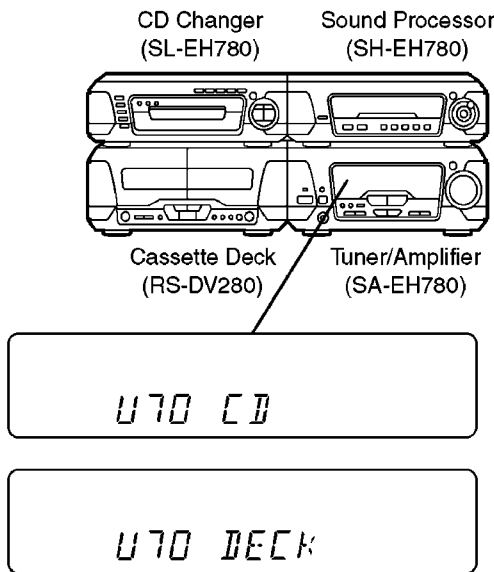

Fig. 7-1.
- U70 CD:** Automatically displays on the tuner/amplifier when a malfunction occurs. Refer to Fig. 7-1.
- U70 DECK:** Automatically displays on the tuner/amplifier when a malfunction occurs. Refer to Fig. 7-1.
- F61:** Automatically displays on the tuner/amplifier when a malfunction occurs. Refer to Fig. 7-1.